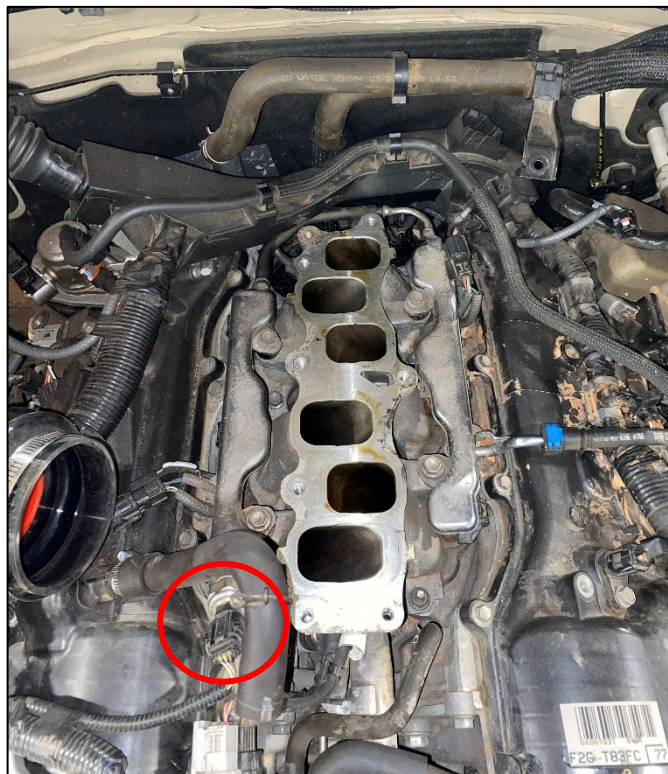

Figure 7
13. Unplug the Fuel Pressure Sensor at the front of the Lower Intake Manifold. *Figure 7.*